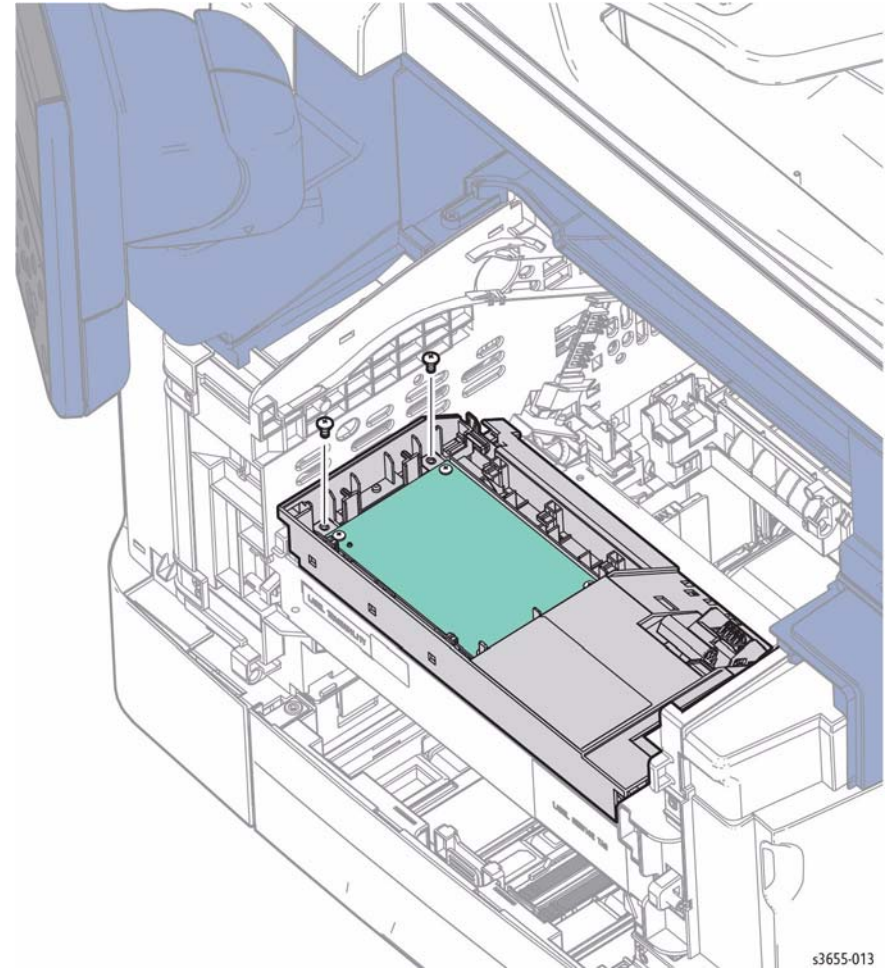

Figure 2 Release the MCU Housing
5. Refer to Figure 2 to locate and remove 2 screws (silver, M3, 6mm) that secure the MCU housing to the chassis.